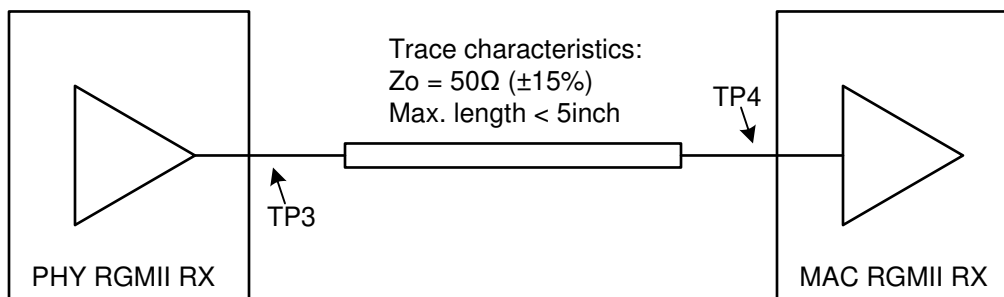

Figure 7-3. RGMII RX Requirements
- No damping resistors should be added at TP3/TP4, in Figure 7-3, as that will impact signal integrity of RX signals.
- Figure 7-3 shows a RGMII interface requirements for RX* signals. MAC RGMII driver output impedance should be 50Ohm +/-20%.
- Signal Integrity at TP3 and TP4, in Figure 7-3, should be verified with IBIS model simulation and ensured conformance to following requirements: